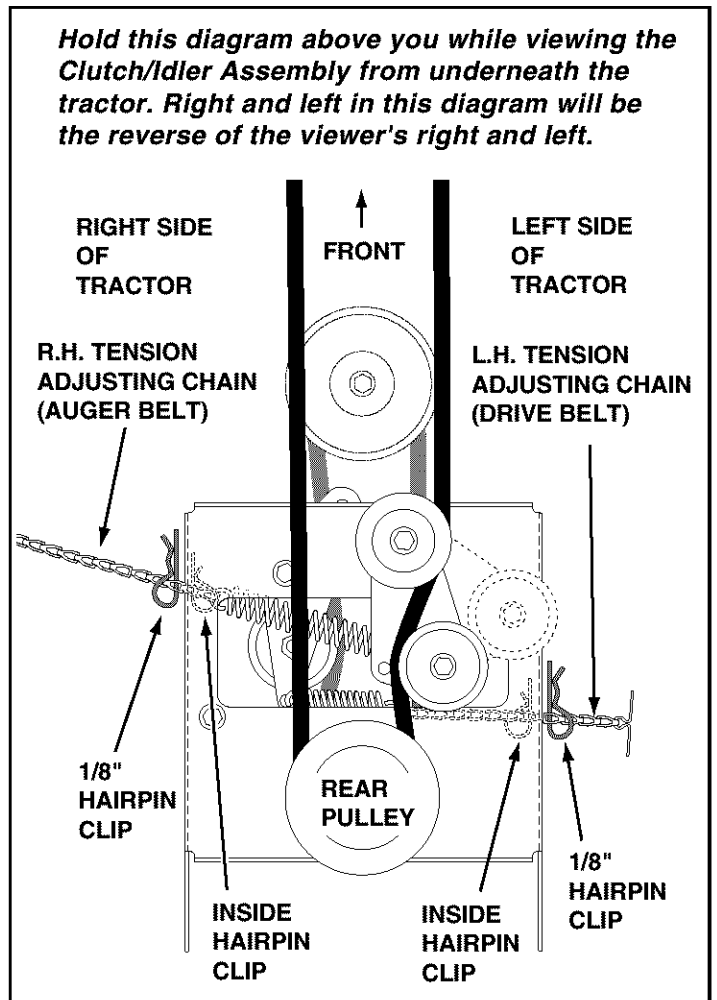

FIGURE 18
- Place the **auger** belt around the bottom rear pulley on the clutch/idler assembly and between the two pulleys on the lower idler arm. Keep the flat idler pulley to the outside of the belt. See figure 18.
- Pull the flat idler pulley against the **auger** belt using the R.H. tension adjusting chain. For correct belt tension, pull the chain as far as the inside hairpin clip will allow and then reinstall the **outside** 1/8" hairpin clip into the chain. See figure 18.
- Pull the upper flat idler pulley against the **drive** belt using the L.H. tension adjusting chain. For correct belt tension, pull the chain as far as the inside hairpin clip will allow and then reinstall the **outside** 1/8" hairpin clip into the chain. See figure 18.